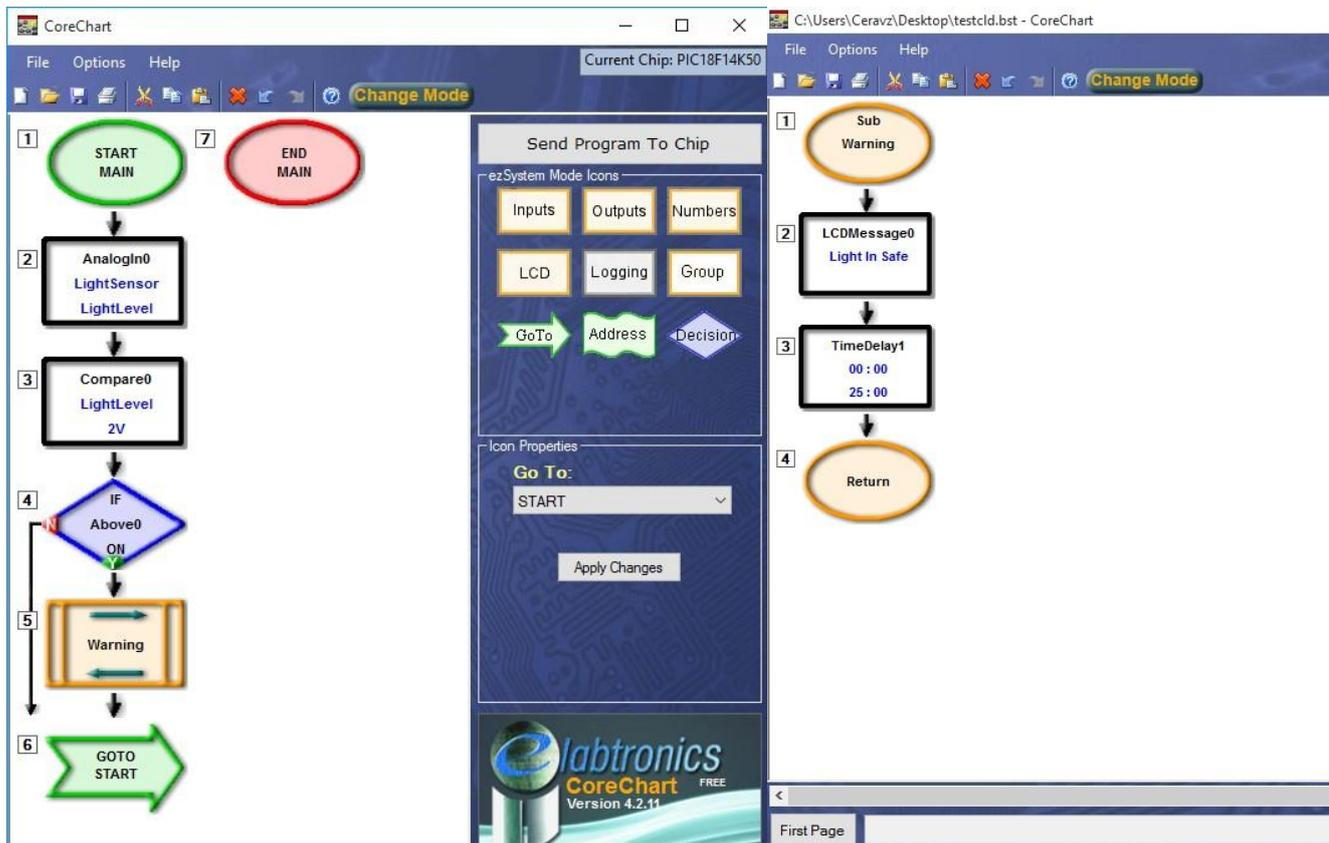

Figure 5: Start of the Program and the Group “Warning”
6. Add a “GoTo” just before the END MAIN and select “START” from the dropdown menu. The program is shown in Figure 5.